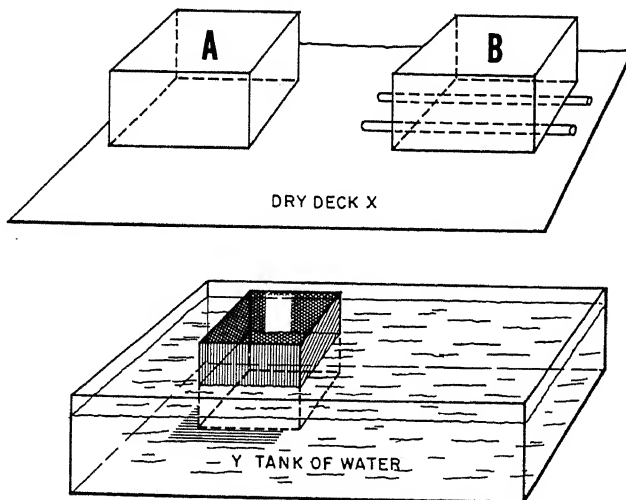

Figure 5A.
- When answering items 5-2 through 5-8, refer to figure 5A.